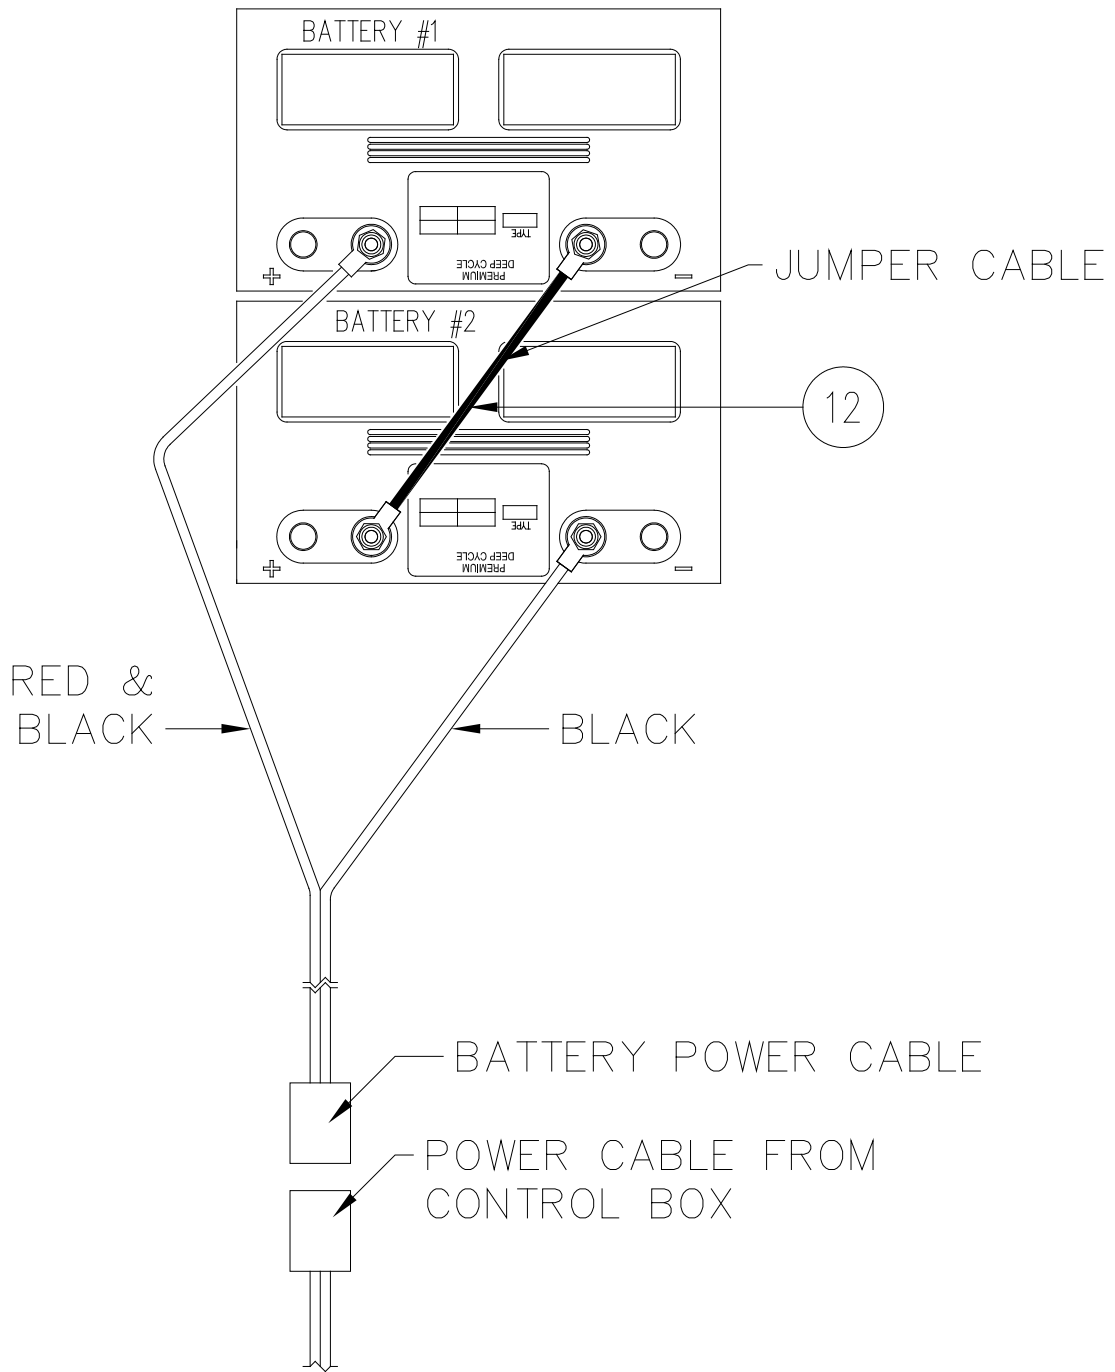

Figure 3-7a
1. Refer to either Figure 3-7a Manual or 3-7b Remote control. Connect the battery cable to the two batteries by connecting the black & red wire to the positive terminal of battery #1, and the black wire to the negative terminal of battery #2. Connect jumper cable (12) to the negative terminal of battery #1 and to the positive terminal of battery #2. If the cable end does not fit battery stud, rotate jumper cable end for end.